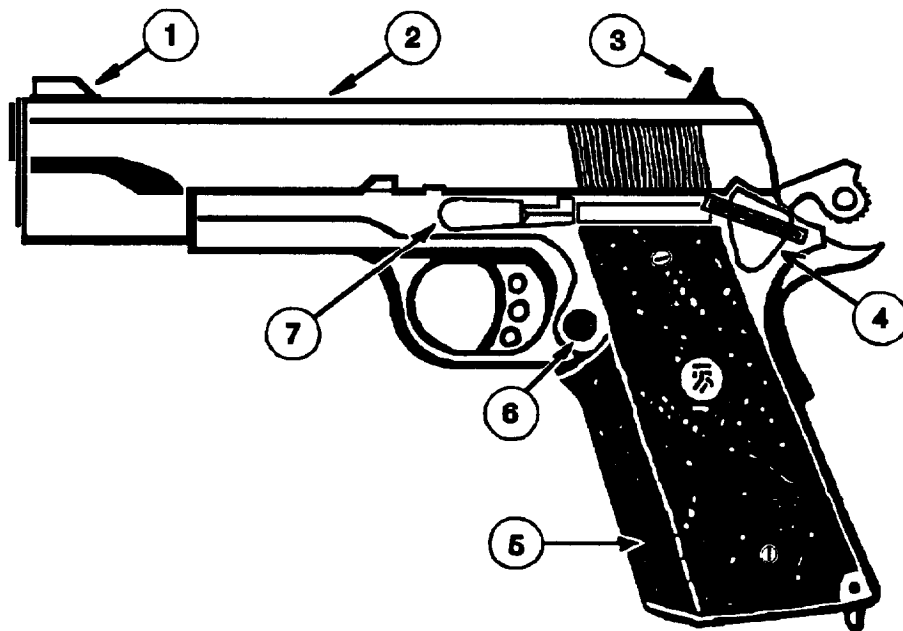

Figure 2-1. MEU(SOC) .45 Caliber Pistol - Left Side
a. The left side of the pistol, Figure 2-1, reveals front sight (1), slide (2), rear sight (3), ambidextrous thumb safety (4), combat pistol grip (5), magazine catch (6), and slide stop (7).